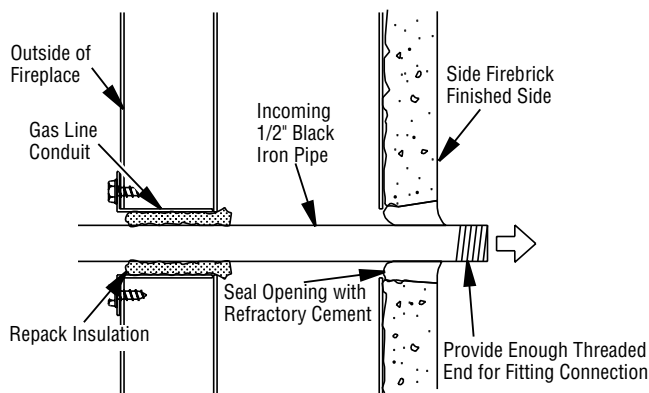

Figure 37 - Gas Line Installation
- Run a 1/2" black iron gas line into fireplace through the rear at gas line conduit sleeve (if using a raised platform, add height). Provide sufficient gas line into fireplace chamber for fitting connection (see Figure 37).